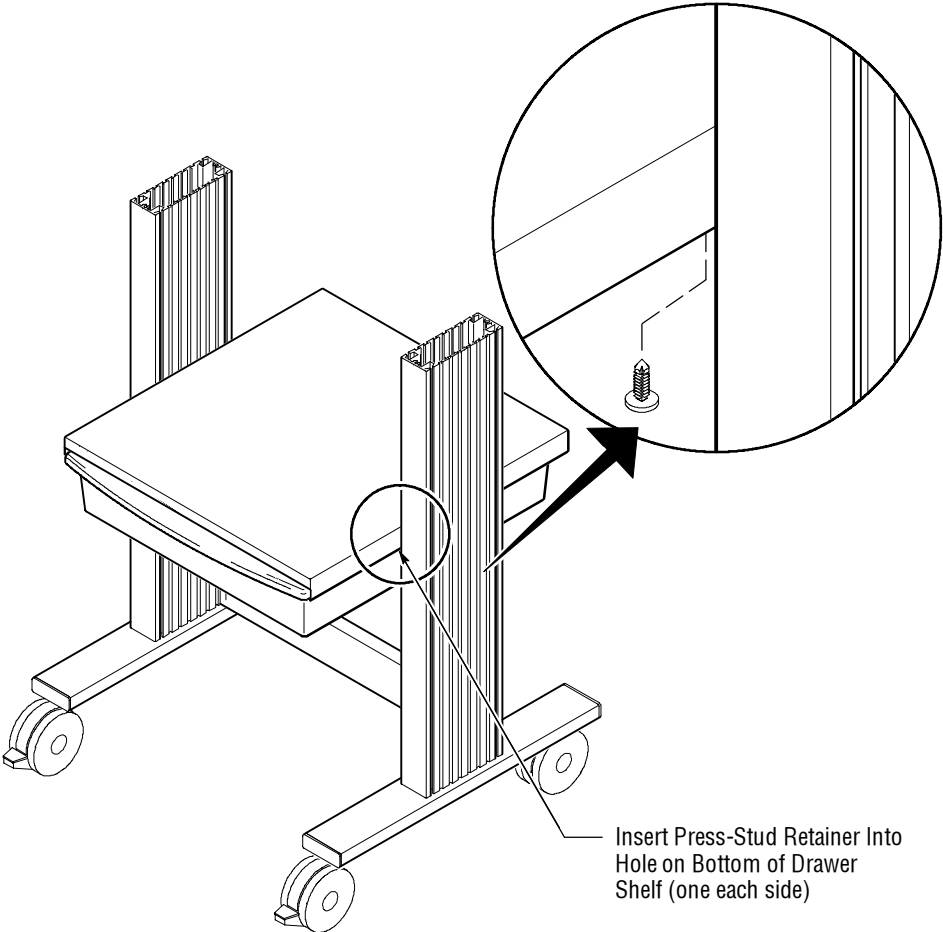

Figure 9: Installing the Press-Stud Retainers
6. Use your thumb to press into place the two press-stud retainers at the bottom of the drawer rails, as shown in Figure 9.